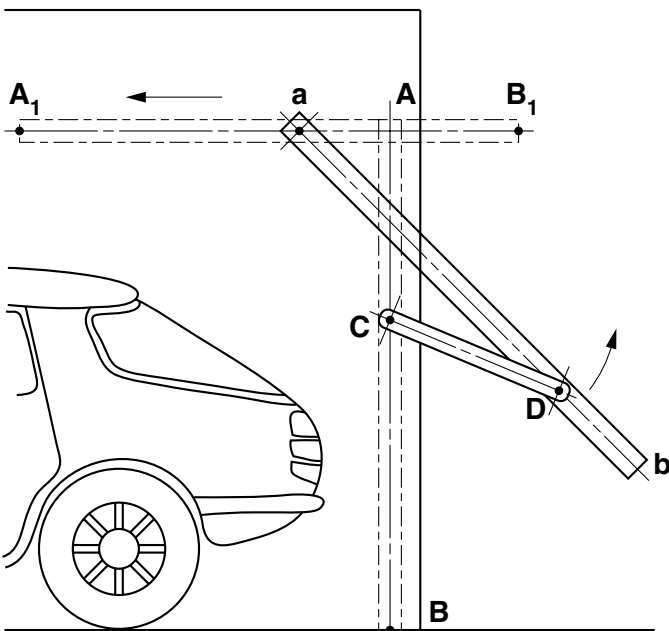
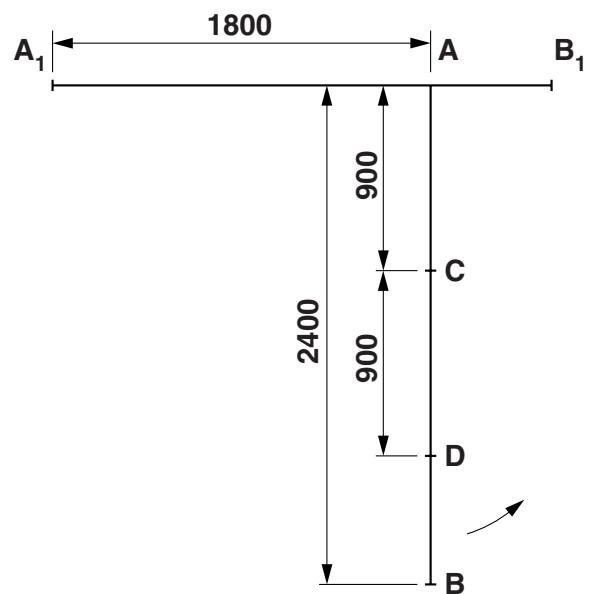

Fig. 1a
Fig. 1b
- 1 A sketch of an 'up and over' garage door is shown with the door partially open in Fig. 1a. The line drawing, Fig. 1b, shows the garage door in the fully closed position.
(a) Draw Fig. 1b to a scale of 1:20. [3]